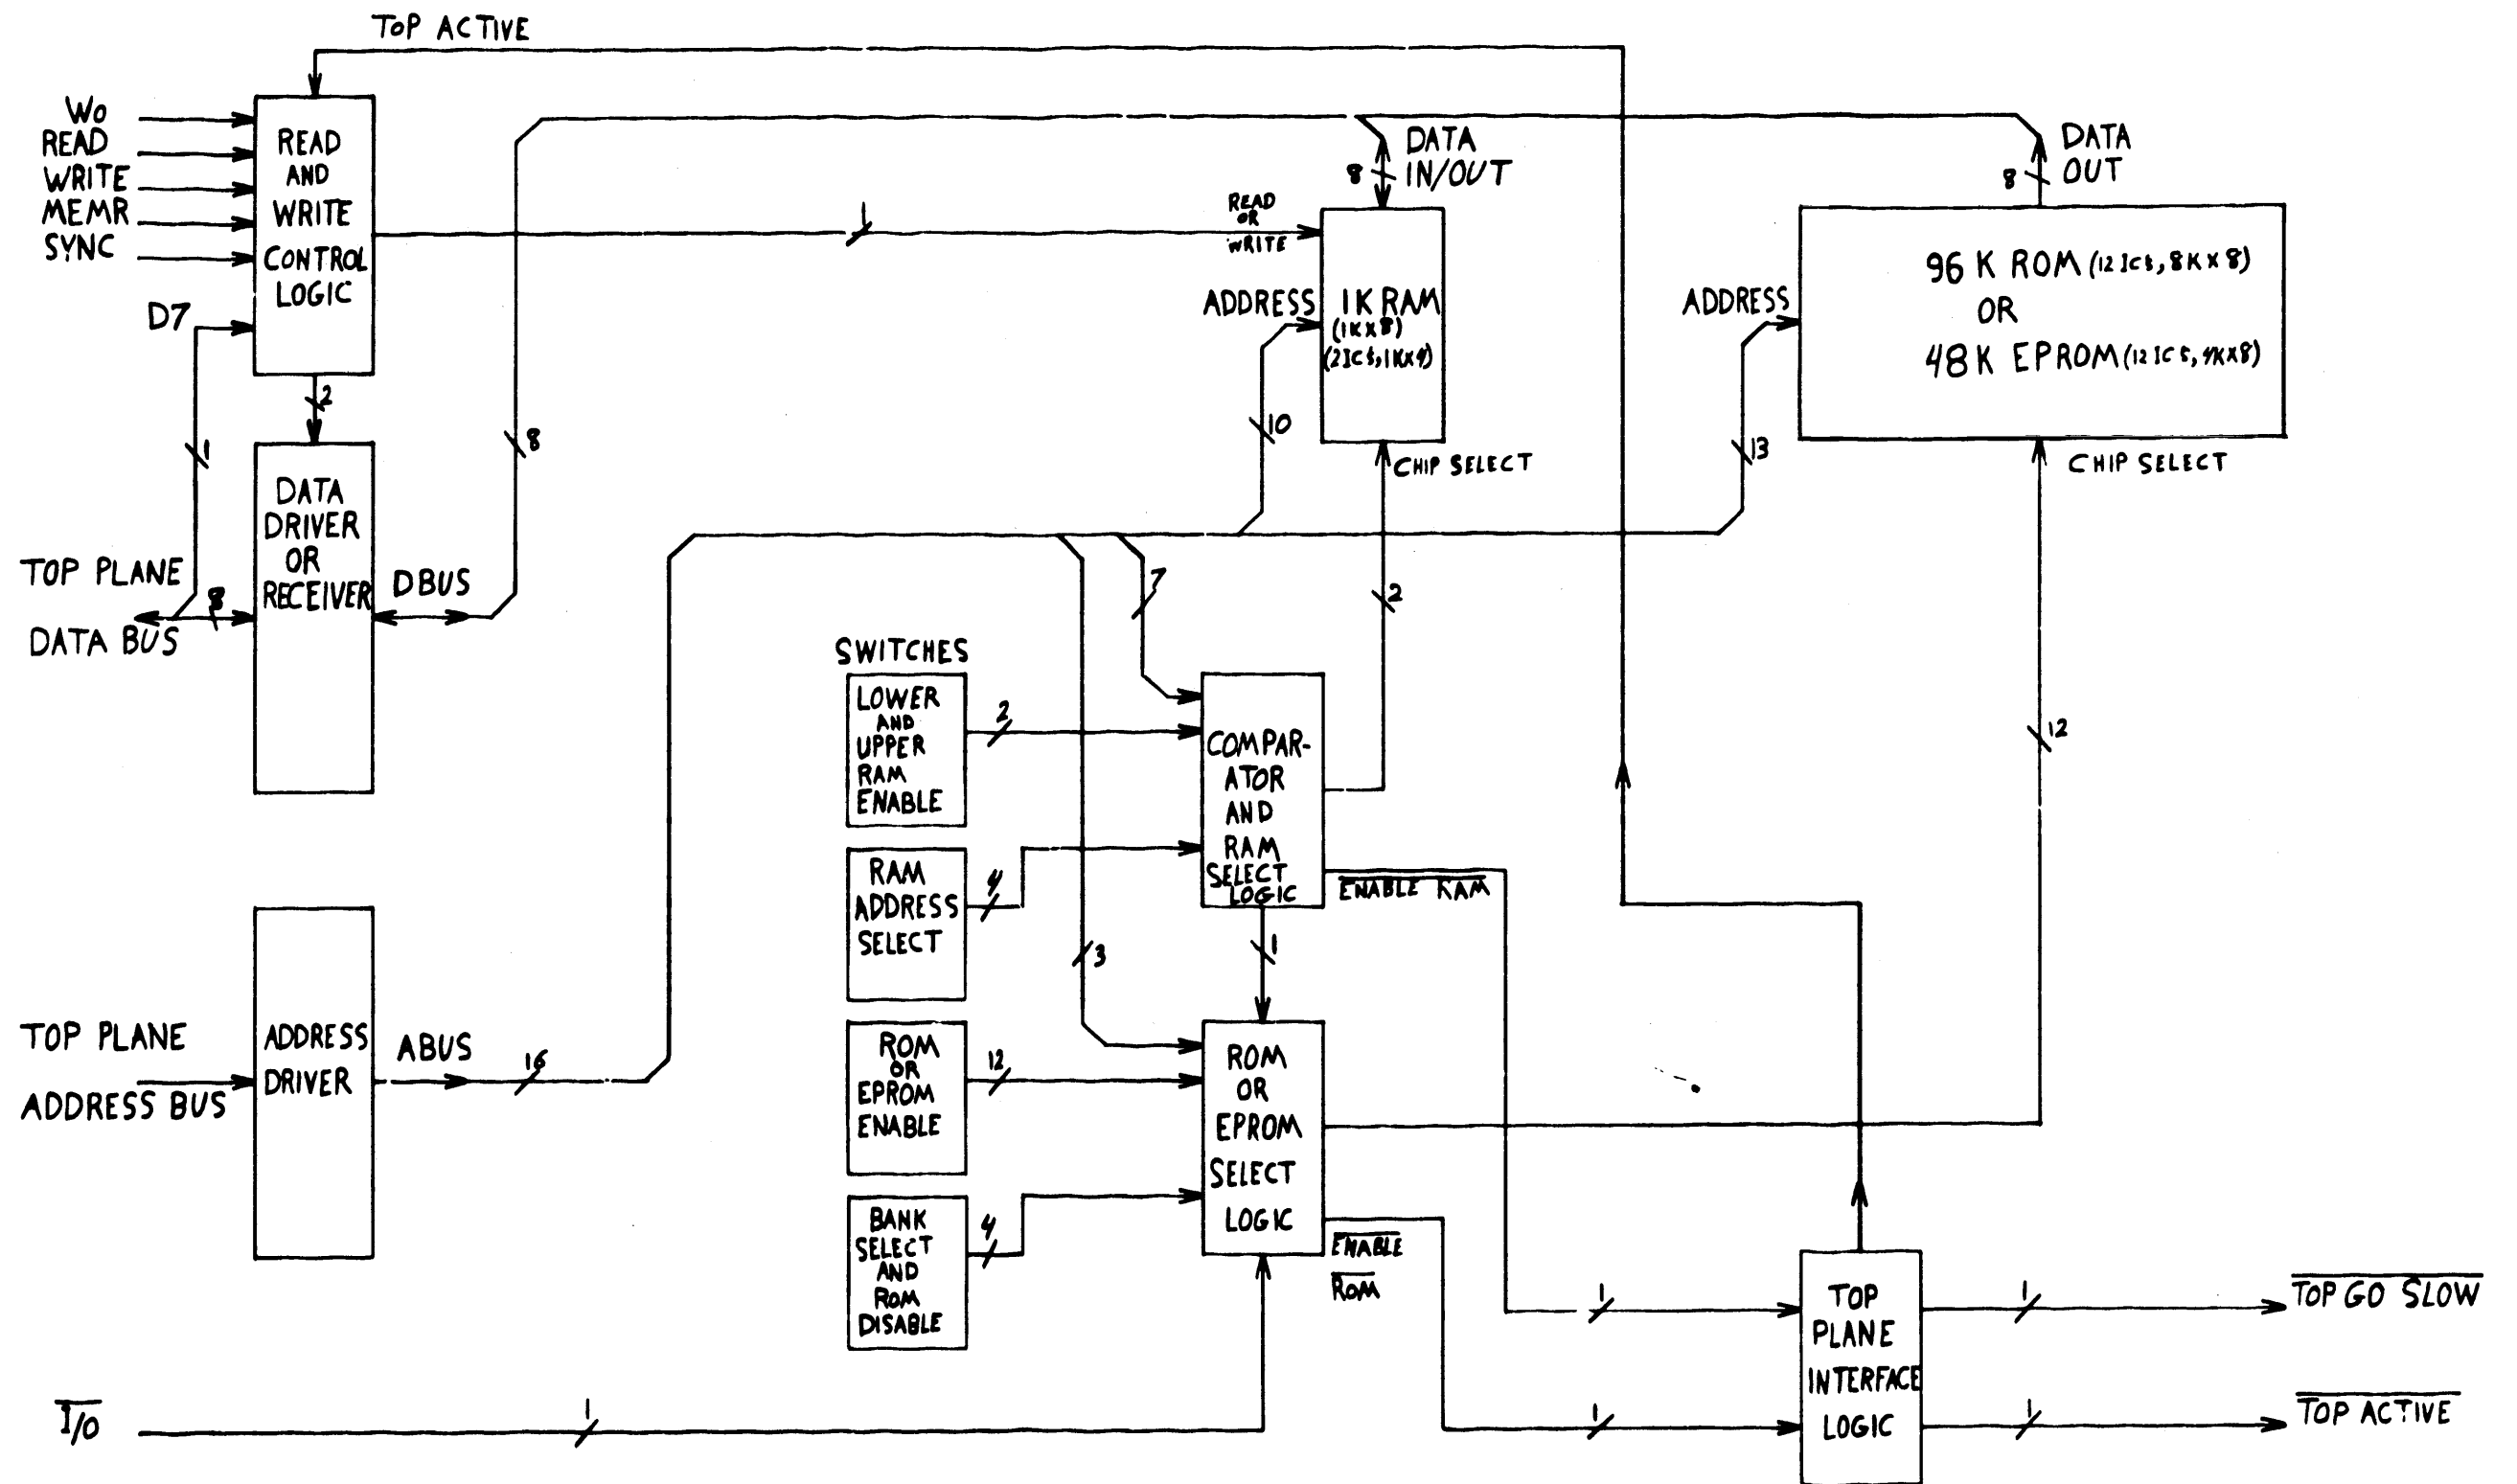
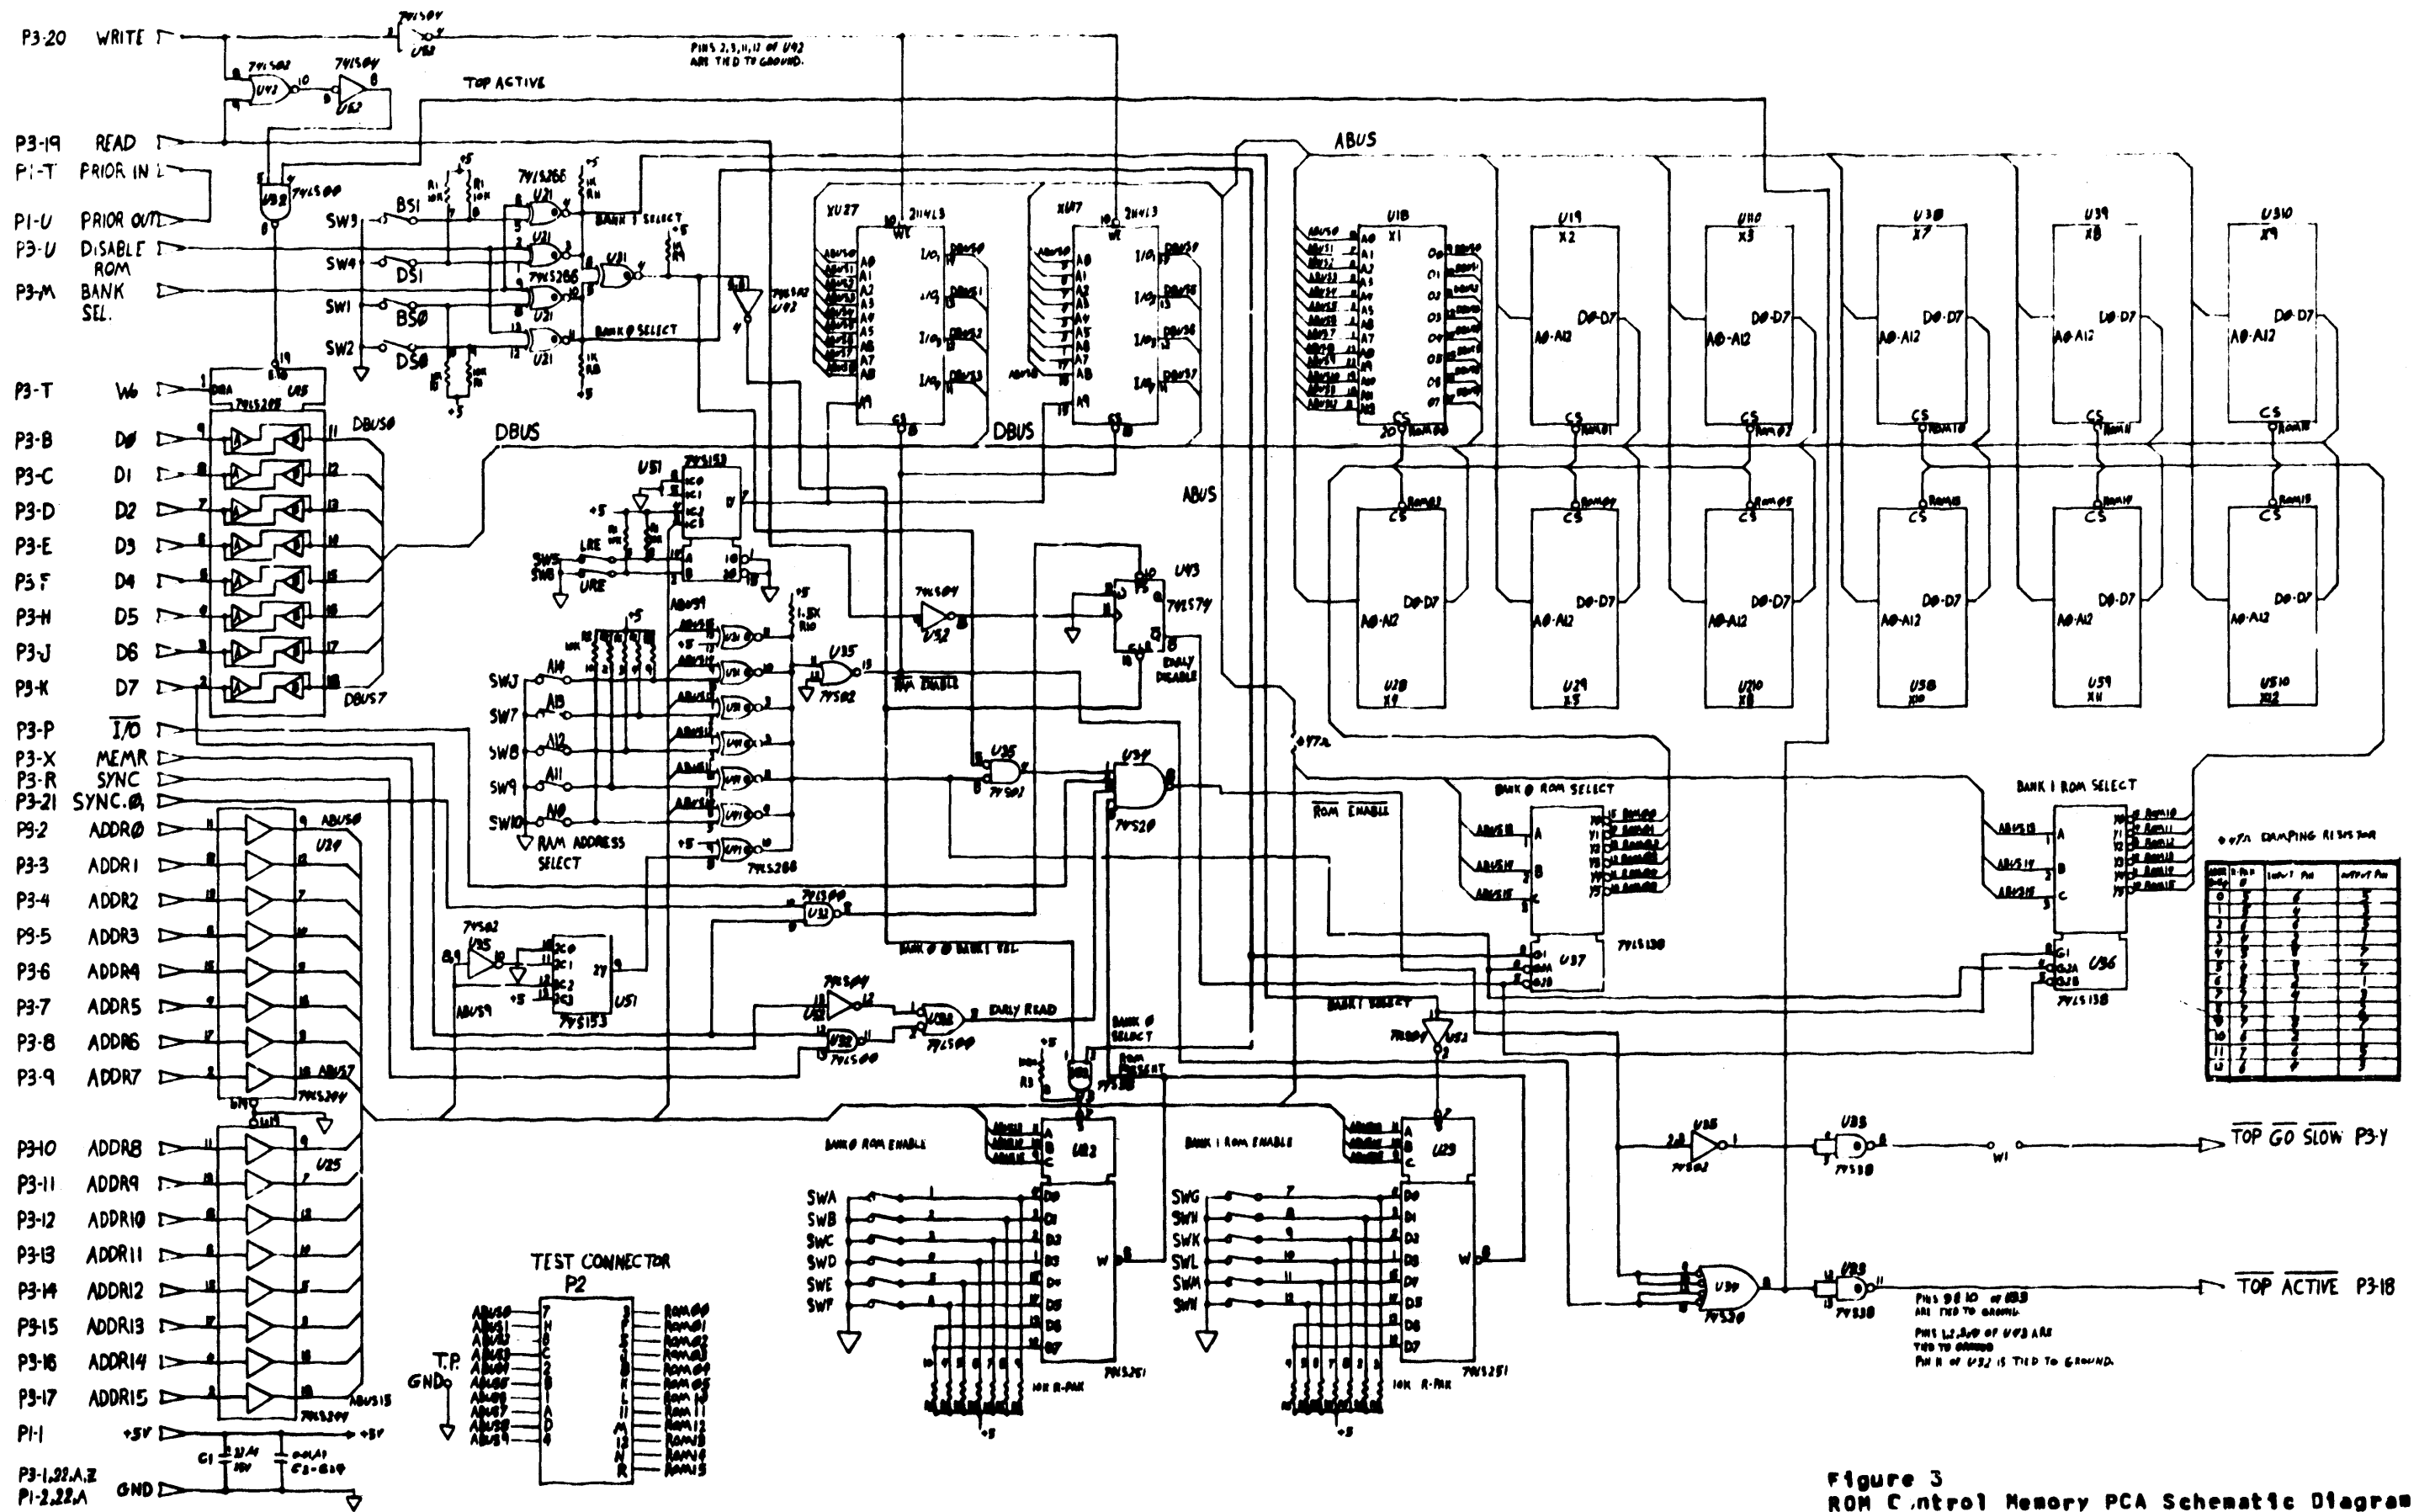
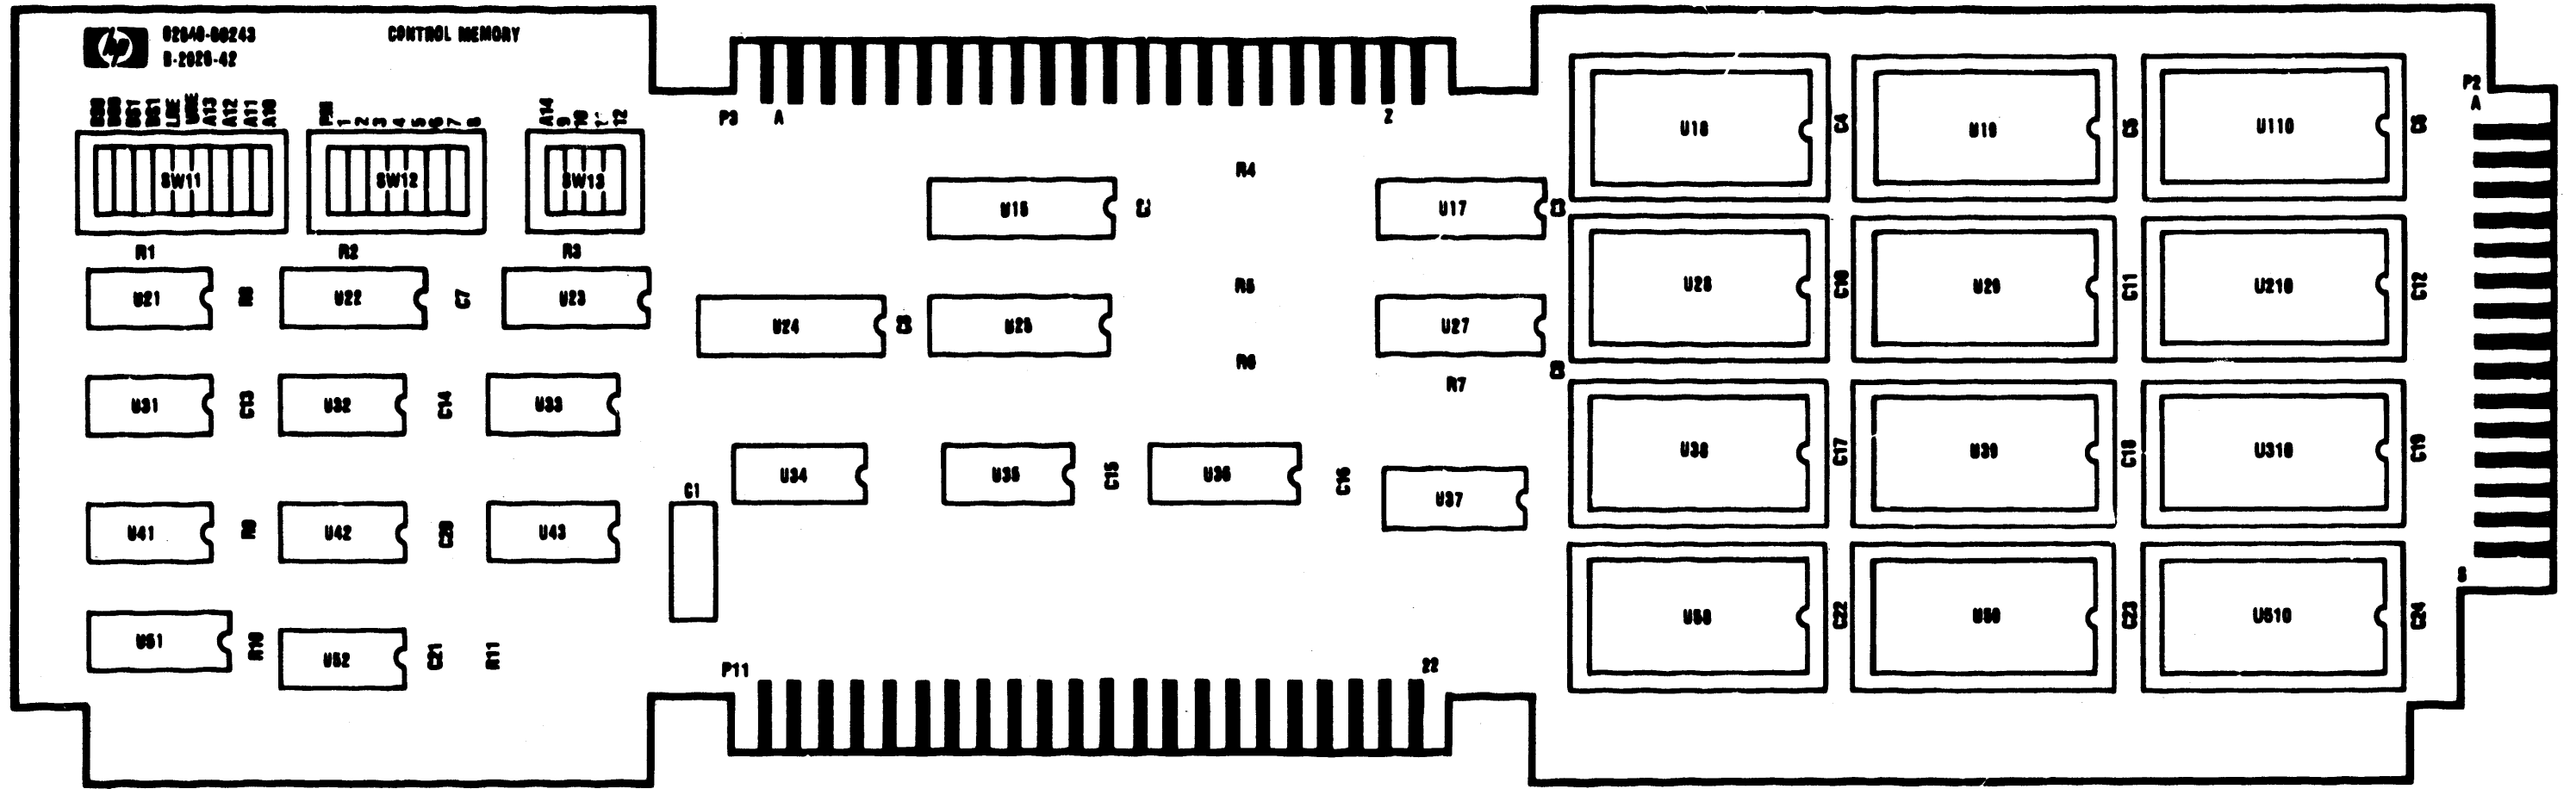

Figure 1
Figure 3
Figure 4
3.0 **FUNCTIONAL DESCRIPTION.** Refer to the block diagram (figure 1), schematic diagram (figure 3), timing diagram (figure 2), component location diagram (figure 4), and parts list (02640-60243) located in the appendix. The 02640-60243 ROM and 02640-60241 EPROM Control Memory PCA use the same block, and timing diagrams.